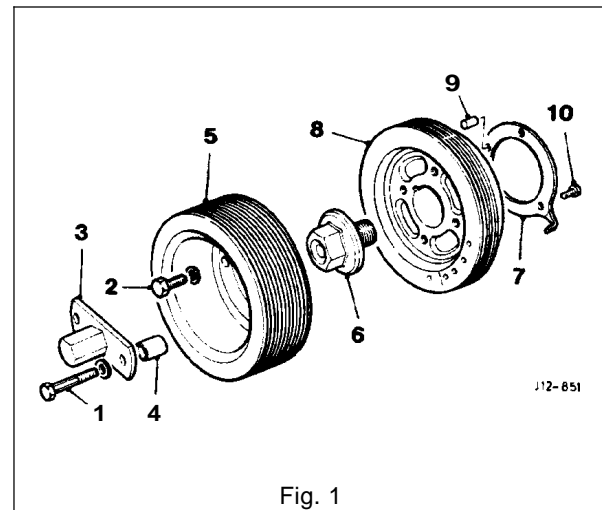

Fig. 1
- Fit the timing disc (7 Fig. 1) to the replacement damper (8 Fig. 1) with the roll pin (9 Fig. 1) and secure with the screws (10 Fig. 1).
- Fit the damper assembly to the crankshaft nose, and secure with the damper bolt (6 Fig. 1).
- Fit the pulley (5 Fig. 1) and the crank turning plate (3 Fig. 1) and secure with the securing bolts and spacers (1, 2, 4 Fig. 1).